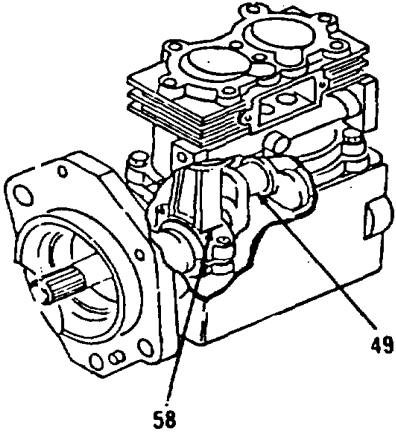

Figure 6-49.
- 10. Lubricate piston (59) and three new rings (55) with oil.
- 11. Install three new rings (55) on piston (59). Stagger the position of gaps between three rings (55) 120 degrees apart.
- 12. Position rod (58) in piston (59).
- 13. Install pin (57) by pressing pin (57) in piston (59) and rod (58).
- 14. Install two plugs (56) in piston (59).
- 15. Using piston ring compression tool, compress three rings (55) in grooves of piston (59).
- 16. Turn crankshaft (49) until one of the rod (58, Figure 6-49) journals is in the downward center position.